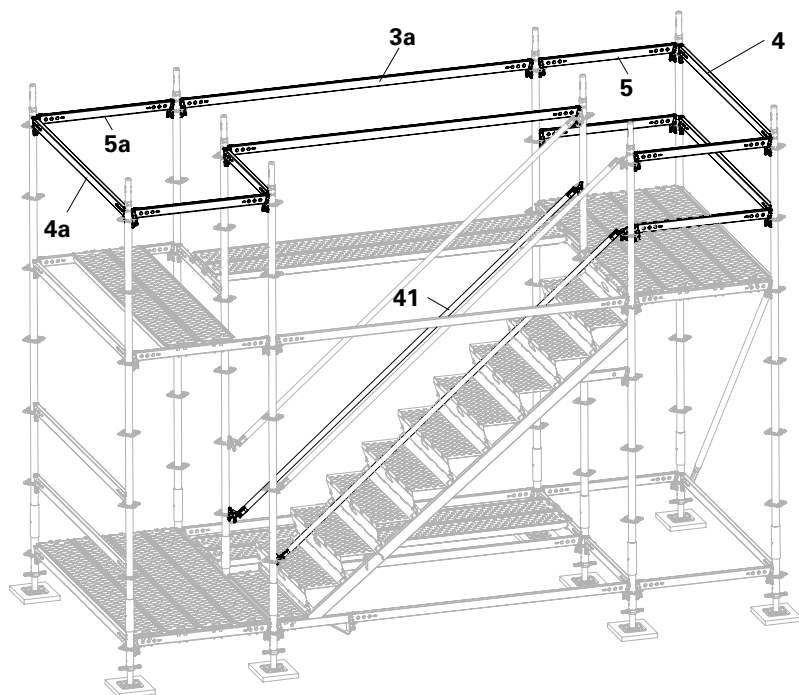

Fig. A2.14
3. Fit the horizontal ledgers (**3a + 4a + 5a**) as assembly guardrails. (Fig. A2.14)